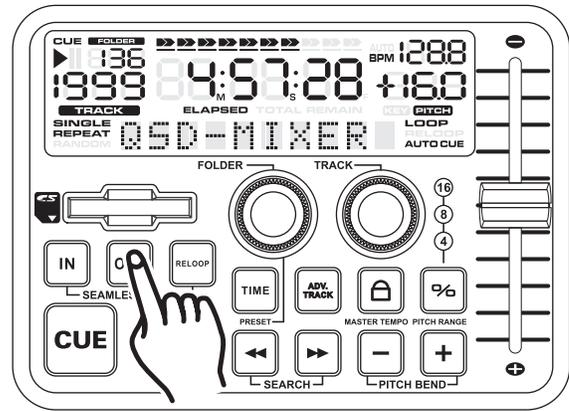

Figure 12
10. EXITING A LOOP - To exit a SEAMLESS LOOP, press the *OUT BUTTON* (35). The *IN BUTTON* (35) and *OUT BUTTON* (35) LEDs will remain on, but will stop flashing. Music playback will resume normal play (Figure 12). The *IN BUTTON* (35) and *OUT BUTTON* (35) LEDs will remain on to remind you that a loop is stored.